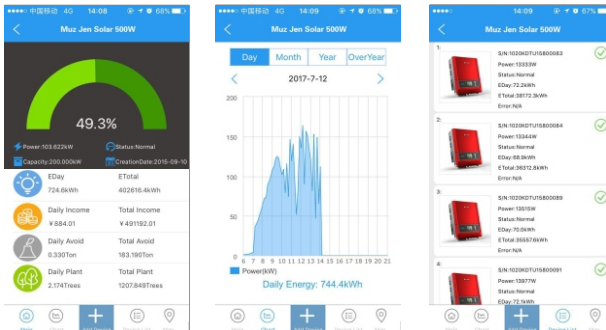

Figure 7.2-6 Power Station Information
Step 2: Open the installed EzViewer to enter the login page, then enter your user name and password, and click on “Login”; the page displays the power station information after your login. Choose your power station, then click to enter the power station interface, and you can find the desired information, as shown in Figure 7.2-6: